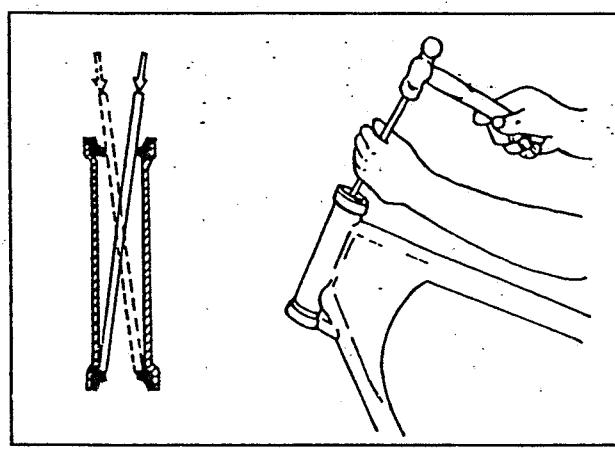

Fig 6.47
- Remove the top and bottom inner race using suitable mandrel (fig 6.47)